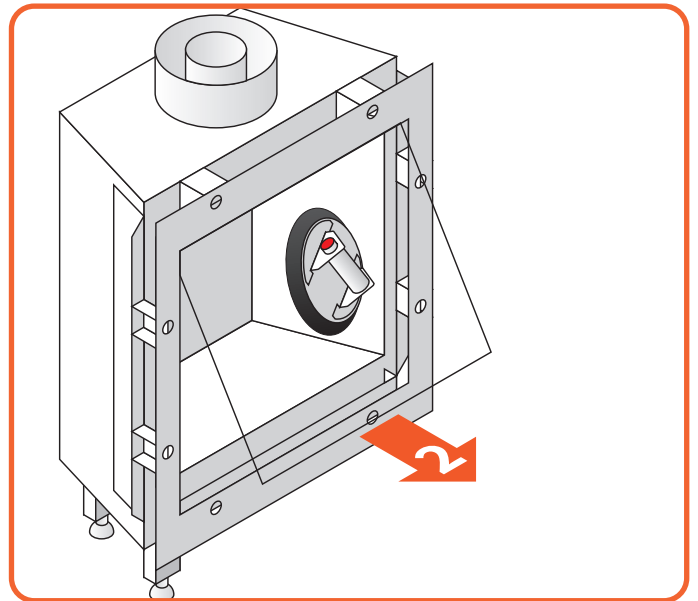

Figure 9.7 | Carefully tilt out the glass
- Lift the glass out of the lower glass rail and tilt it out through the opening, as seen in Figure 9.7.